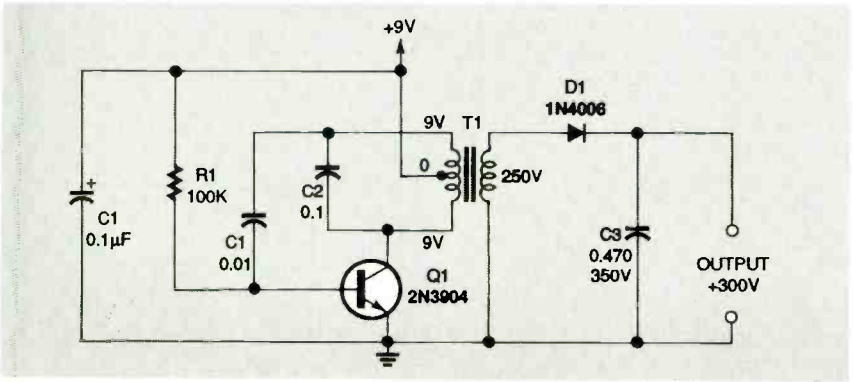

FIG. 6—NINE-VOLT-TO-300-VOLT DC-to-DC converter.
Figure 6 is a DC-to-DC converter circuit that can generate a 300-volt DC output from a 9-volt DC power source. In this circuit, transistor Q1 and its associated circuitry form a Hartley inductive-capacitive (LC) oscillator. The voltage on the primary winding that swings between zero and 9-volts is applied to 250-volt transformer T1. The inductance of the primary is the inductive element in the LC oscillator, which is tuned by capacitor C2.
simple rectifier-filter network, if required. Figures 6, 7 and 8 show schematics for low-power,